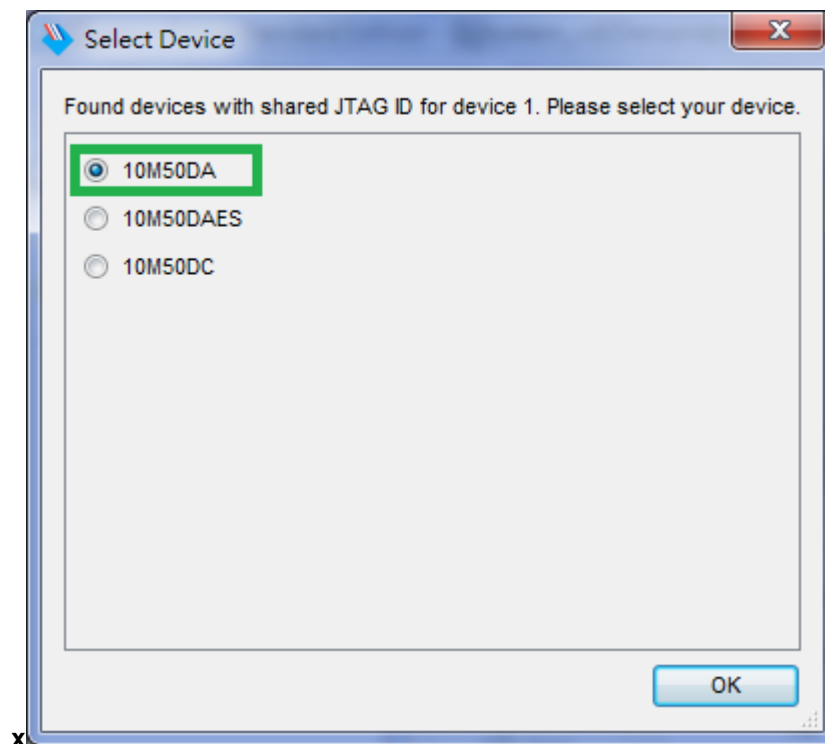

Figure 3-5 Select 10M50DA device
5. Select detected device associated with the board, as circled in **Figure 3-5**.